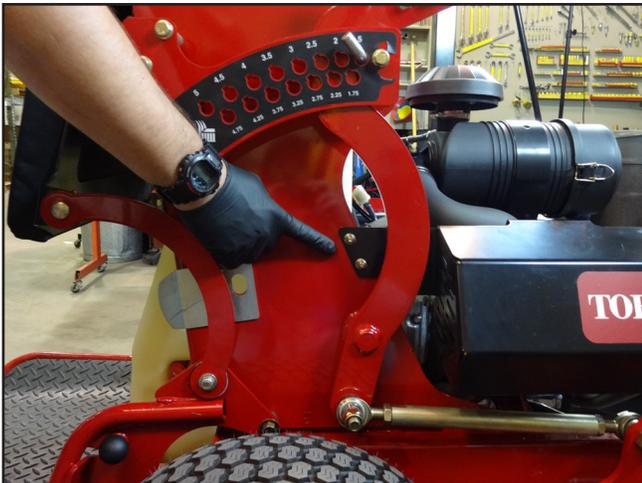

Figure 22
7. Remove the muffler shield by removing the bolts on the front of the muffler shield and 2 bolts on the rear of muffler shield (Figure 22).